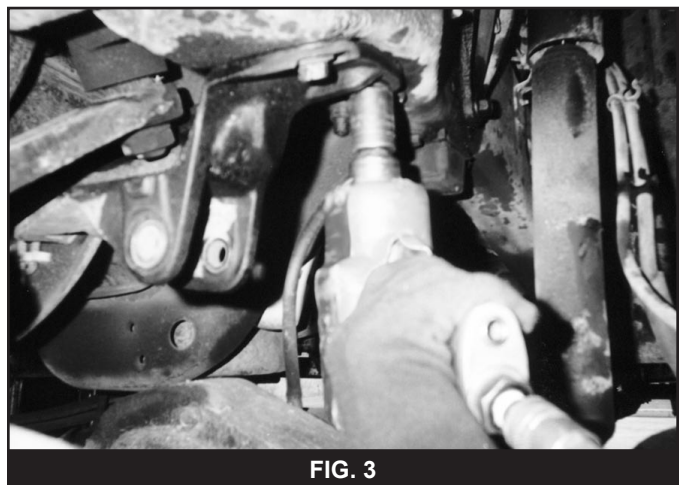

FIG. 3
5. Remove the three bolts that retain the factory track bar bracket to the frame. Set the bracket off to the side and retain the factory fasteners for later use. (Fig 3)